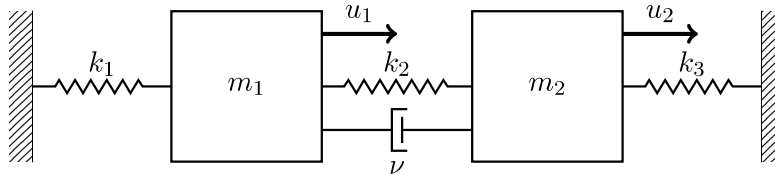

Figure 1: Simple spring-damper system
1. Consider the mechanical system given in Figure 1, where ξ_1, ξ_2 are displacements of the masses, u_1, u_2 are forces acting on the masses. Take the masses to be $m_1 = m_2 = 1$ kg, the spring stiffness to be $k_1 = k_2 = k_3 = 1$ N/m, and the damping coefficient to be $\nu = 1$ Ns/m.